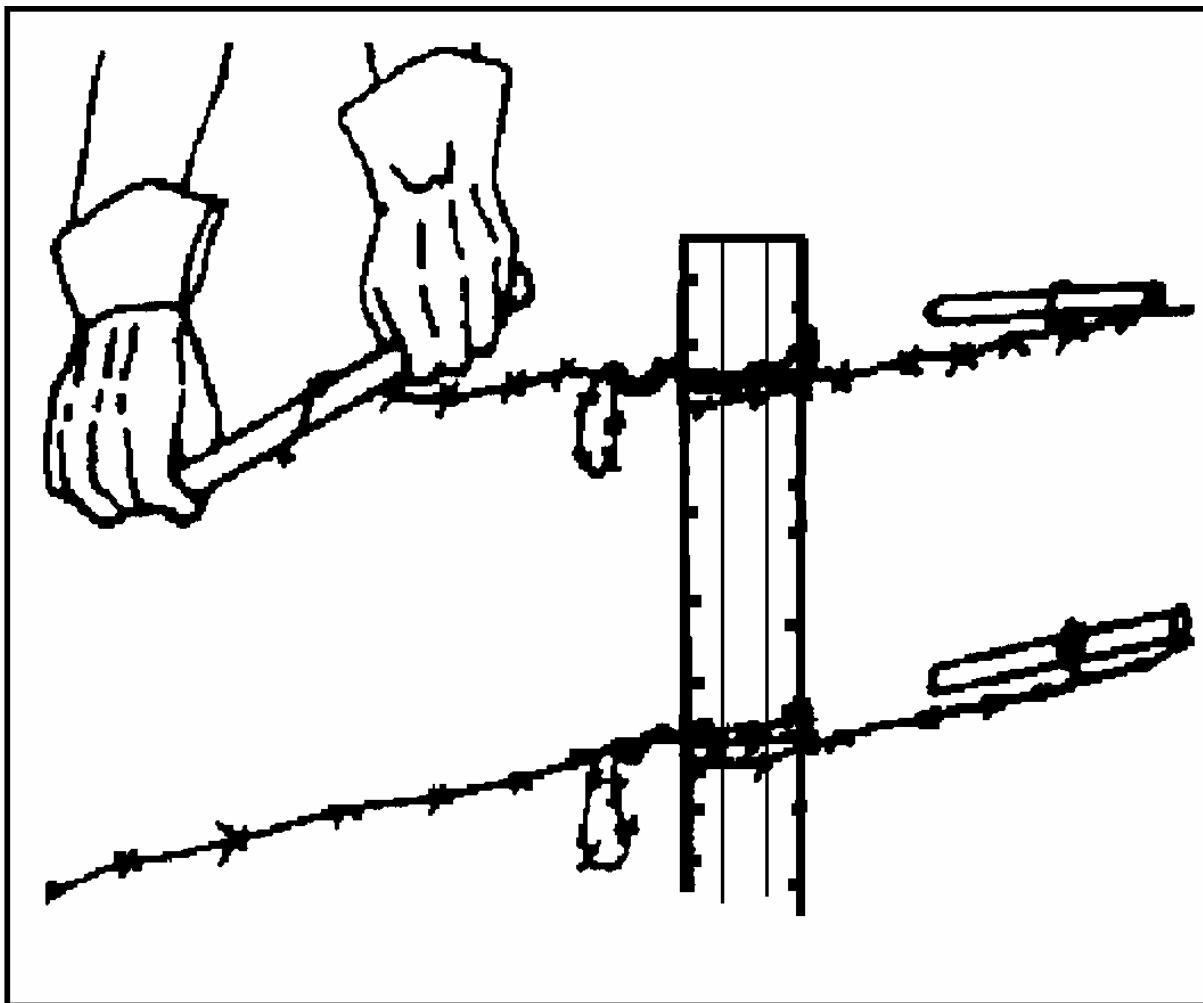

Figure 052-195-1020-3
- (1) Draw a large loop from the free end back under the wire.
- (2) Bring the loop up and over the top of the diagonal wire.
- (3) Bring the loop down and under the free end.
- (4) Wind the loop around the free end at least two complete turns.
- c. Tighten loose wires by racking with a short stick. Rack the wire in the middle, not at the ties or where wires intersect (Figure 052-195-1020-3).